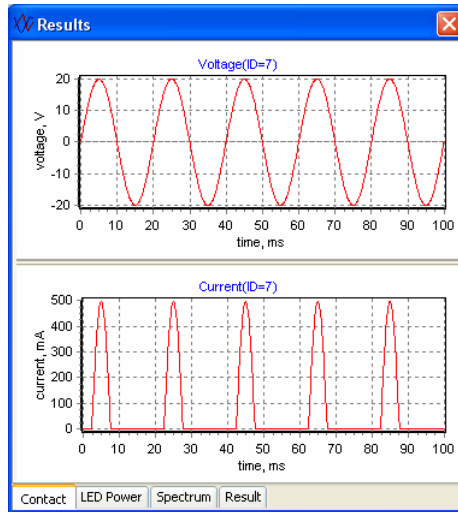

Fig. 26
- **Contact.** Voltage and current in the given element as a function of time (see Fig.26).